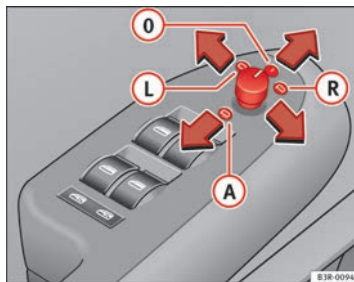

Fig. 104 Detailed view of the armrest: Adjuster knob
- Turn the adjuster knob to position ⇒ **fig. 104 (L)** (left exterior mirror) or position **(R)** (right exterior mirror).
When reverse gear is engaged, the mirror surface tilts slightly downwards, provided the mirror control is switched to the exterior mirror on the passenger side (knob in position **(R)** ⇒ fig. 104). This provides a better view of the kerb when parking.